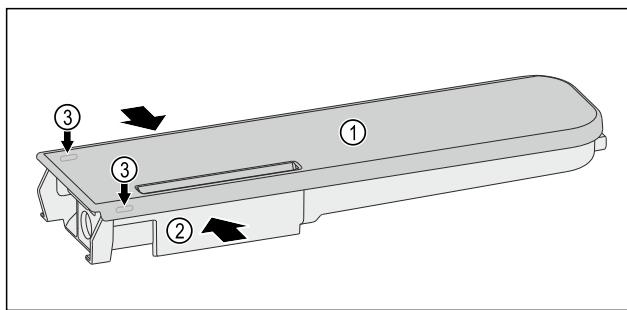

Fig. 141
- Push the water tanks Fig. 141 (2) together, leverage the cover Fig. 141 (1) carefully over the latching tabs Fig. 141 (3) and lift it up.
- Move the cover Fig. 141 (1) slightly forwards and back, and remove to the top.